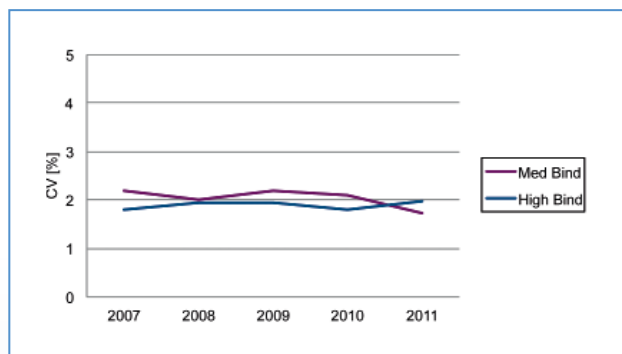

Figure 3: Coefficient of variation (CV) of tested raw material batches from 2007 to 2011 for transparent microplates (med. and high binding)
- For intra-plate homogeneity the coefficient of variation (CV) must not exceed 5 % for colorimetric or 10 % for fluorescence and luminescence assays.
The main criterion for our ELISA microplates is a stable coefficient of variation (CV) from batch to batch which is monitored over a long period (Fig. 3).